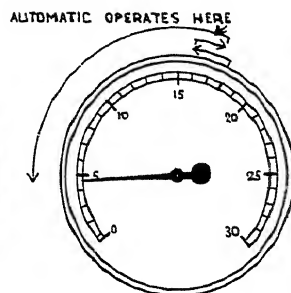

Fig. 14.—AUTOMATIC ADVANCE AND RETARD
4. Automatic Advance and Retard (Fig. 14)